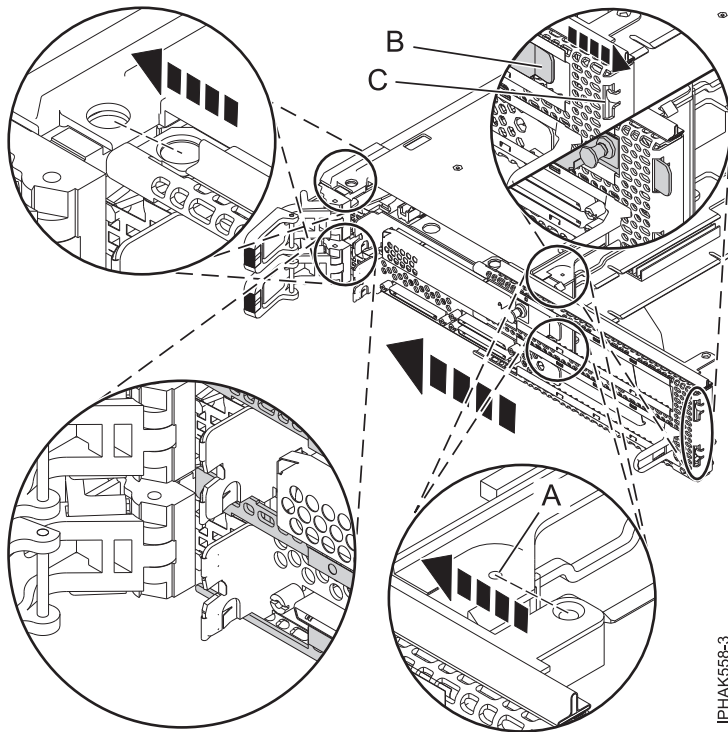
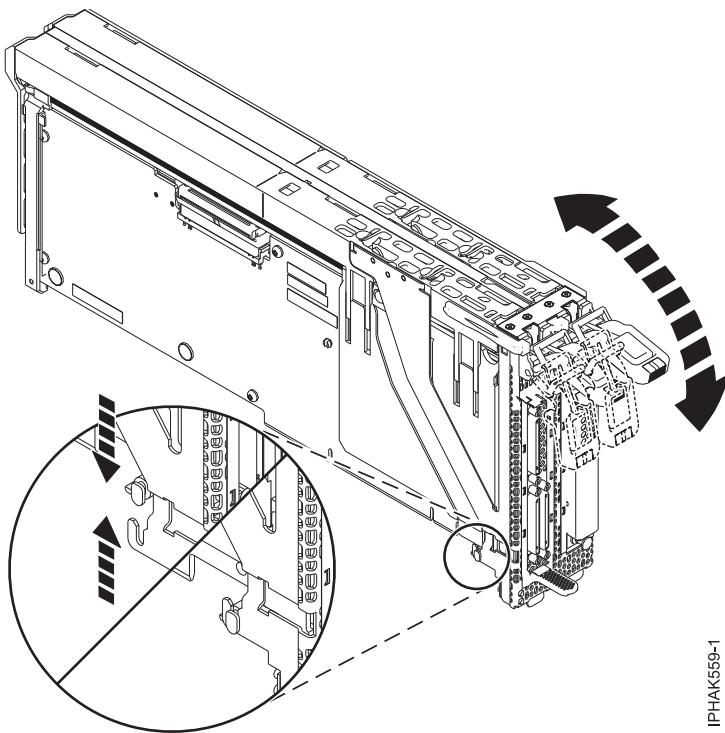

Figure 59. Attaching the face plate
Figure 60. Attaching the face plate
7. Attach the face plate to the front of the cassette assembly as shown in Figure 59 on page 76. Then, insert the tab at the bottom of the cassette cover assembly into the notch on the face plate as shown in Figure 60 on page 76.